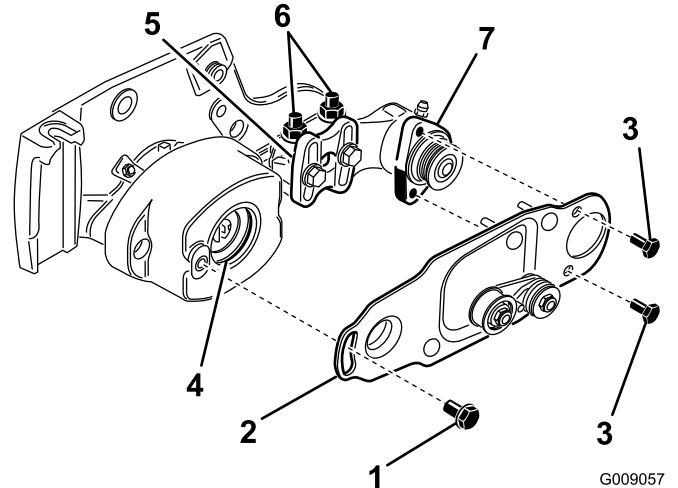

Figure 17
7. Remove the (2) capscrews securing the roller brush pivot plate to the bearing housing (Figure 17).
8. Remove the shoulder bolt securing the roller brush pivot plate to the bearing housing (Figure 17).
9. Remove the pivot plate with idler pulley assembly still attached (Figure 17).